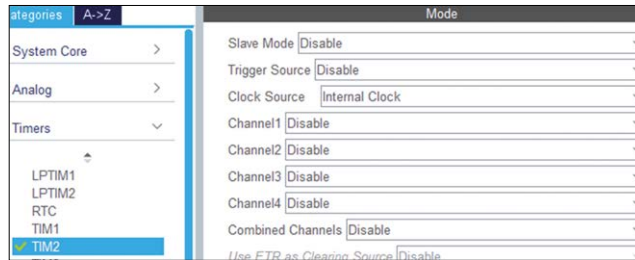

Figure 9.2: Setting the TIM2 clock.
- Click tab **Timers** and then click **TIM2** and set the **Clock Source** to **Internal Clock** (see Figure 9.2).